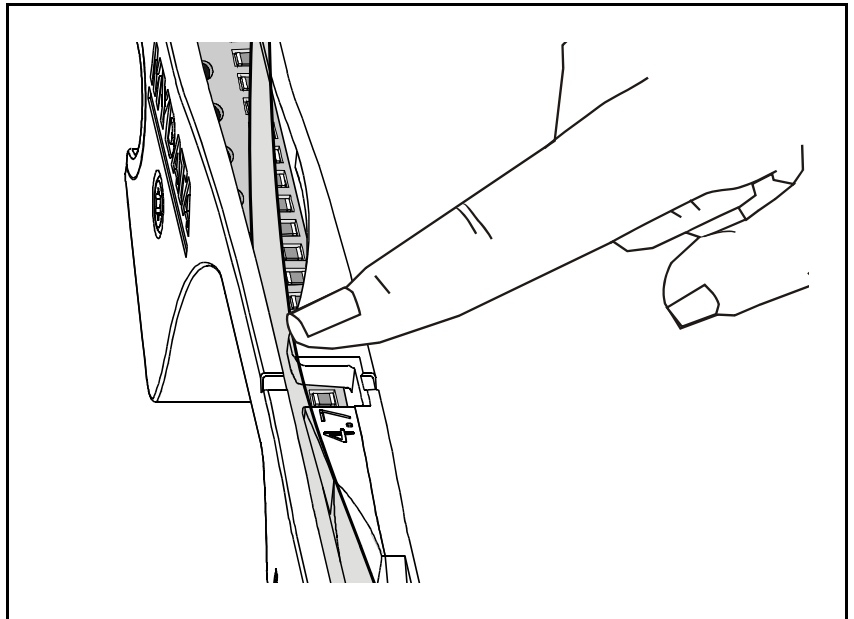

Figure 5-6. Pressing the cover tape into place.
2. Thread the component tape into the feeder. Press the cover tape in position with your finger. The carrier tape is supposed to run below, and the cover tape above, the feeder rail, see Figure 5-6.